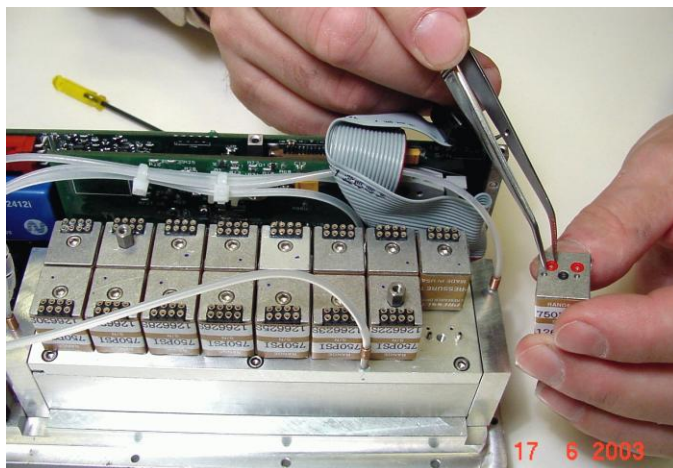

Figure 5.4
- (1) Disassemble the module as described in **Section 5.1.2**.
- (2) Remove the PC-327 Analog board as described in **Section 5.1.3.1**. Lay the circuit board aside on an anti-static surface.
- (3) Remove the retaining screw from the desired DH200 transducer. Lift the transducer straight up to remove it. Make sure that the two (2) O-rings remain with the transducer as it is removed from the adapter plate. Ensure that the adapter plate O-ring sealing surface is clean and free of contaminants. See **Figure 5.4** (above).
- (4) Replace the DH200, making sure that the electrical connections are located on the outer edge of the cubic design. Be sure that the two (2) O-rings are in place on the DH200 and that O-ring surfaces are free of contaminants. The DH200 must fit the guiding pins smoothly and be aligned with all other DH200 transducers. Tighten the retaining screw to 40 inch-ounces \pm 5 inch-ounces of torque.
- (5) Replace the PC-327 Analog board as described in **Section 5.1.3.1** and reassemble the module. Ensure that the two hex-head standoff screws are installed on DH200 positions 2 and 15 and that they align with the two PC-206 mounting holes.
- (6) Test your scanner to ensure proper operation.